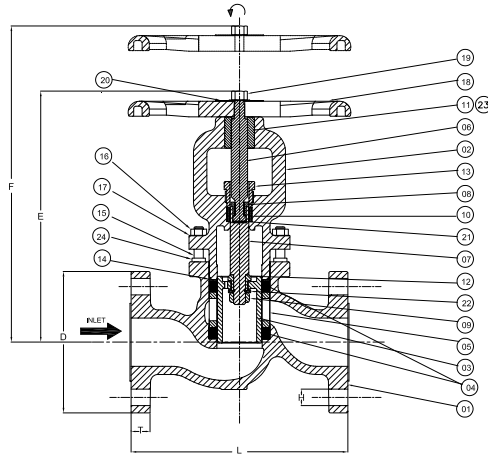

Figure 5: DN 65-200 Piston Valve
4. Operation: [Refer figure 5]